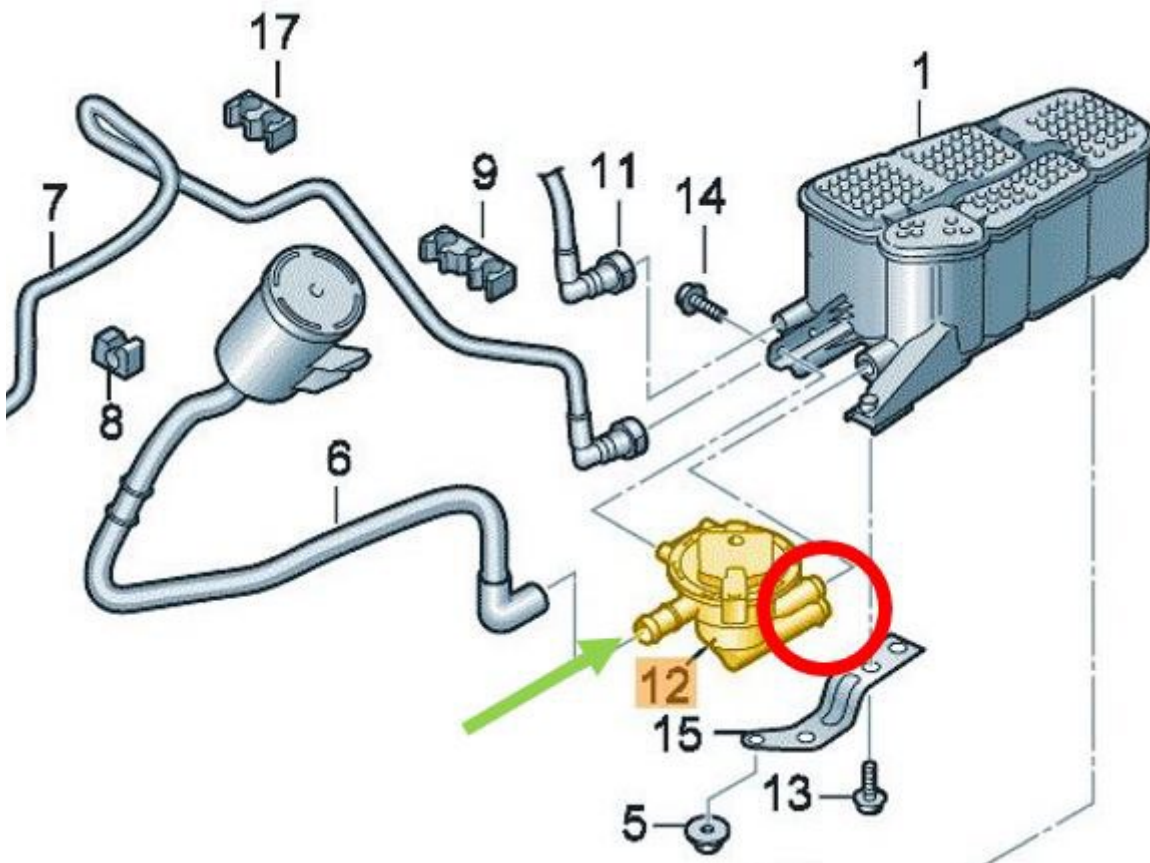

Figure 1: Fuel tank pressure sender G400 (NVLD).
- Using a compressed air gun, please blow through the NVLD (item 12 in illustration) with several brief pressure applications of approx. 5 bar. To do so, use the opening on the NVLD marked in the illustration by a green arrow (figure 1).
The opening marked with a red circle (figure 1) must not be closed or exposed to compressed air, as this may cause irreparable damage to the NVLD. In addition, this ensures that possible contamination can be blown out of the NVLD.